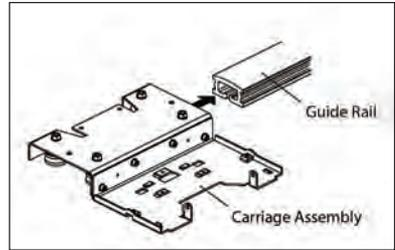

Figure 1
1. Insert the carriage assembly to the guide rail. (See Figure 1)